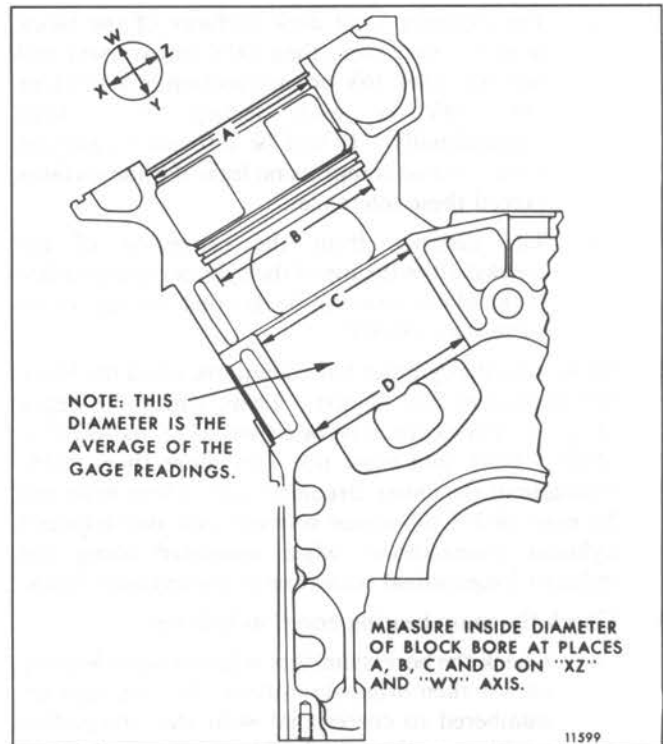

Fig. 5 – Cylinder Block Bore Measurement Diagram
- b. Measure each cylinder block bore, at the positions indicated in Fig. 5, on axis 90° apart. If the diameter does not exceed 5.3620" (new) or 5.3635" (used) at position "A", 5.3385" (new) or 5.3395" (used) at position "B" (lower two seal ring lands), 5.2175" (new) or 5.2185" (used) at position "C" and 5.2180" (new) or 5.2185" (used) at position "D", and a sealing problem has not occurred at position "B", the block may be reused. The above measurements are average gage readings at each position. Also, the taper and out-of-roundness must not exceed .0010".